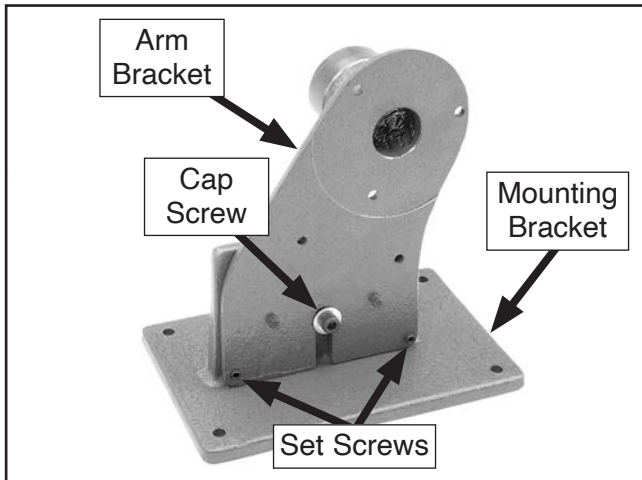

Figure 9. Left side of pivot arm bracket assembly.
2. Secure the adapter to the motor assembly with (3) 1/4"-20 x 1/2" cap screws.
3. Back out the cap screws and set screws in the pivot arm mounting bracket and the pivot arm bracket, then slide the arm bracket onto the mounting bracket, as shown in **Figures 9–10**.
7. Loosen the three cap screws of the pivot arm bracket assembly (see **Figures 9–10**), then use the mounting hardware you have chosen to firmly secure the motor assembly and the bracket assembly in place.
8. Tighten the four set screws in the arm bracket assembly (see **Figures 9–10**) just until you feel resistance. This will keep the two parts of the assembly stable during operation.